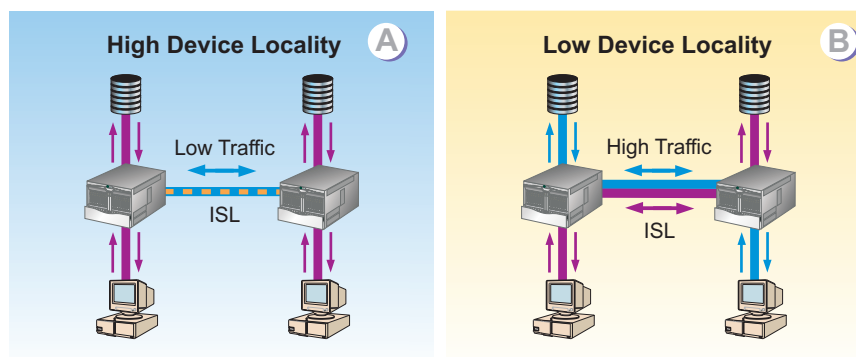

Figure 42: Device locality
Devices that communicate with each other through the same director or switch have *high locality*. Devices that must communicate with each other through one or more ISLs have *low locality*. Part (A) of Figure 42 illustrates high device locality with little ISL traffic. Part (B) of Figure 42 illustrates low device locality.